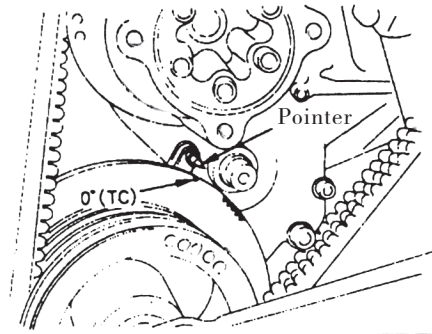

Fig. 1.11
(1) Turn the crankshaft clockwise and make the “TC” mark of belt wheel shock absorber coincide with the needle.
(2) Open the manhole cover and confirm the mark of the bottom plate and position of the needle. If the mark of the bottom plate coincides with the needle position, it indicates the upper dead point on the compression stroke of the first cylinder, adjust the clearances of the air gate with “△” and “※” as well. The clearance value of the air gate: 0.4mm (When it is under cooling state, the air suction and exhaustion are of the same value.) For details, please refer to Figs 1.11, 1.12, 1.13